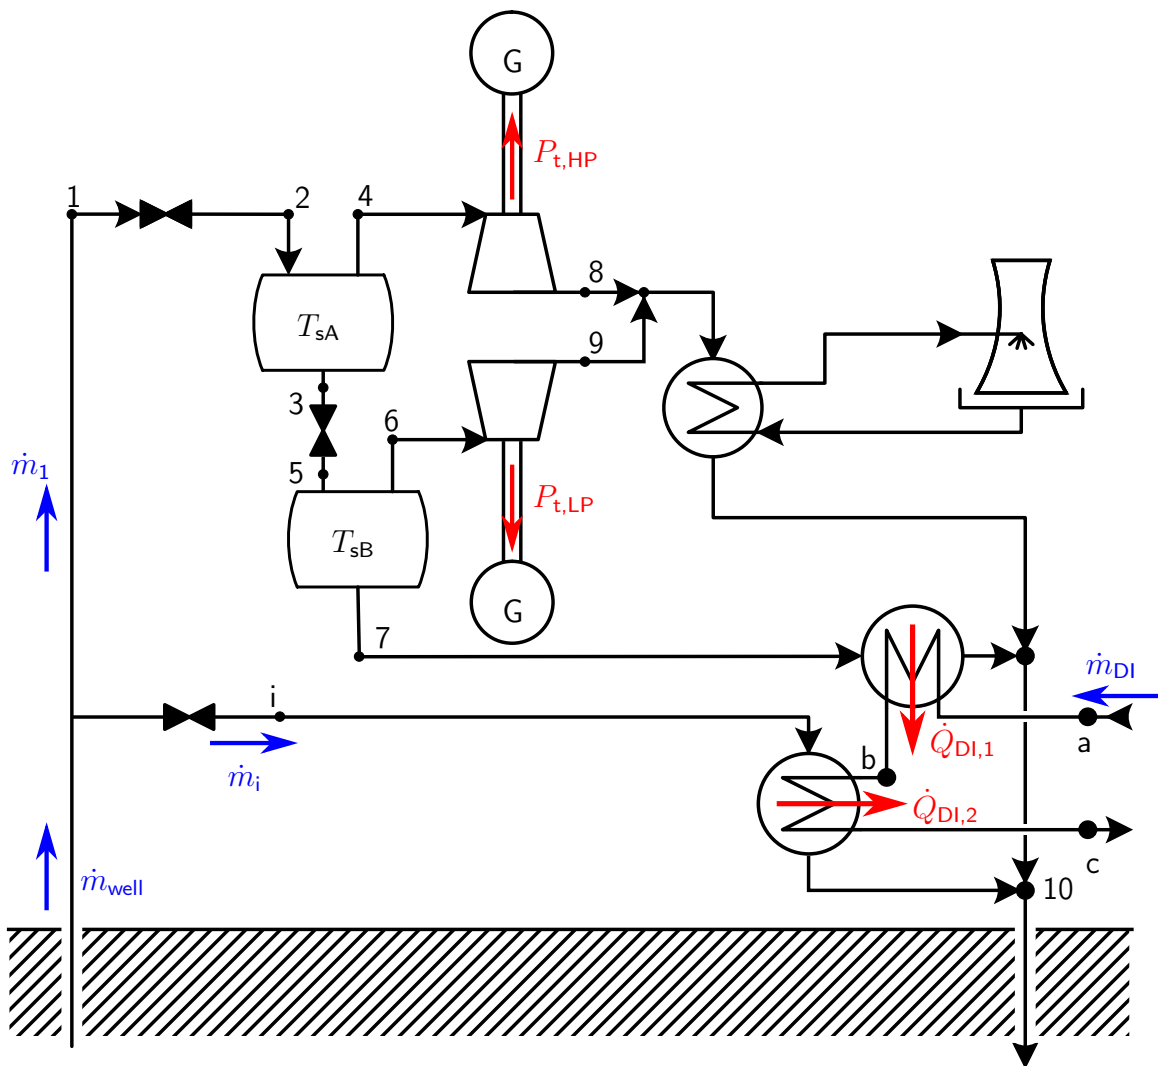

Figure 2: Flow sheet of a double flash power plant.
A double flash geothermal power plant is build to provide electricity and district heating. A schematic of the plant is shown in Figure 2. During summer the plant is operated to maximize the electric power output ($\dot{m}_i = 0$). In winter however the main purpose is to provide enough heat to the district heating grid.
5. Draw the process in a T-s diagram. Take care to label all points present in Figure 2.